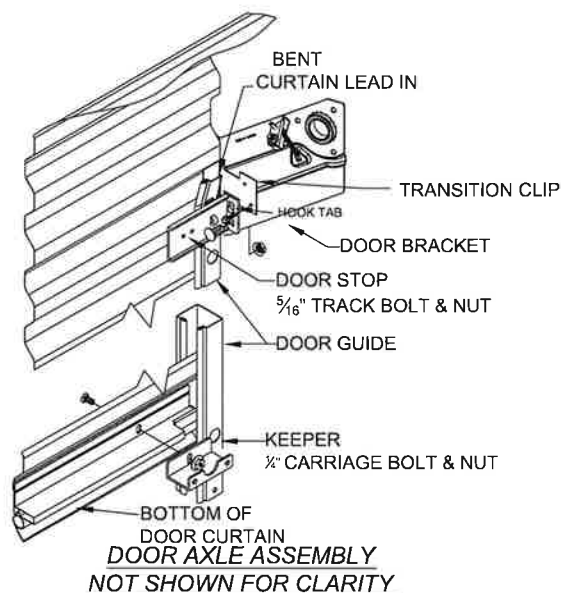

Figure 6.
6.3 Guide the door curtain carefully into the door guides, moving doorstops aside, to allow bottom to pass, and pull it down to approximately waist level. (See Figure 6).
7.1 Attach the two keepers to the bottom interior edge of the door with one (1) 1/4" carriage bolt and whiz nut in each keeper. (See Figure 6).
7.2 Slide the stops up into position so that the hook tab mates with the upper hole on the stop (See Figure 6). Fasten each door stop to each bracket as shown using one (1) 5/16" track bolt and nut through the lower hole of the stop.